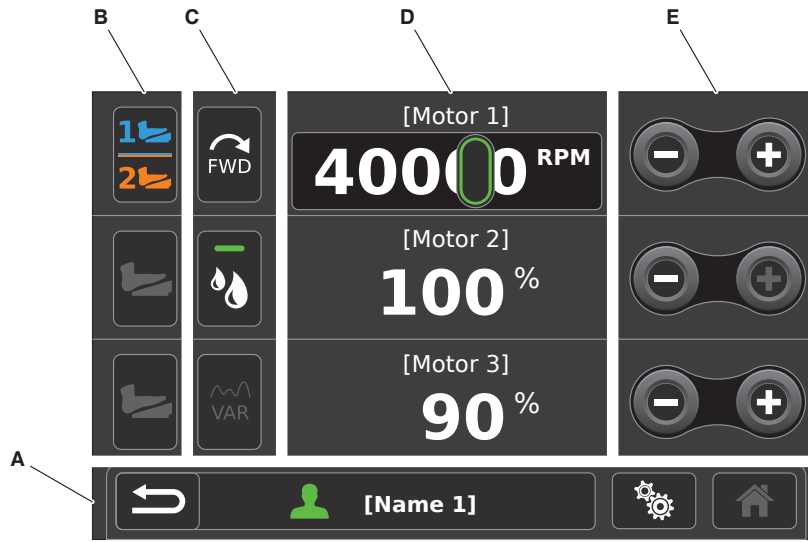

Figure 10 – Home Screen
2. For each connected device, set the following as necessary (Figure 10):